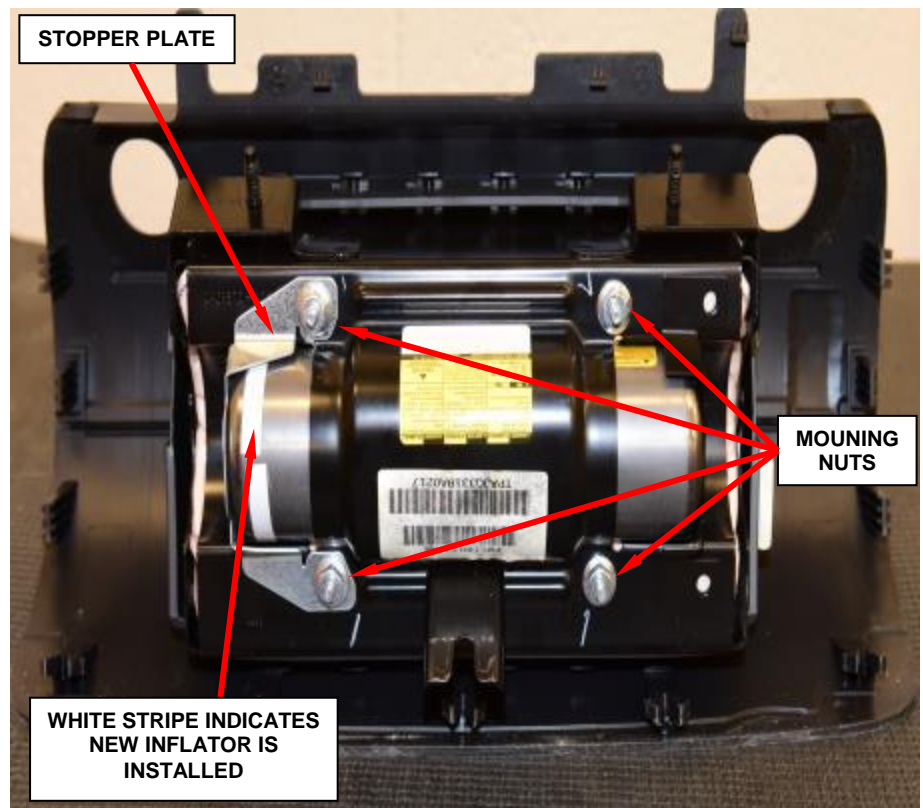

Figure 142 – Retrofit Complete
- h. Passenger airbag retrofit is complete (Figure 142).
3. Remove and save the hinge screws and remove the glove box (Figure 142).